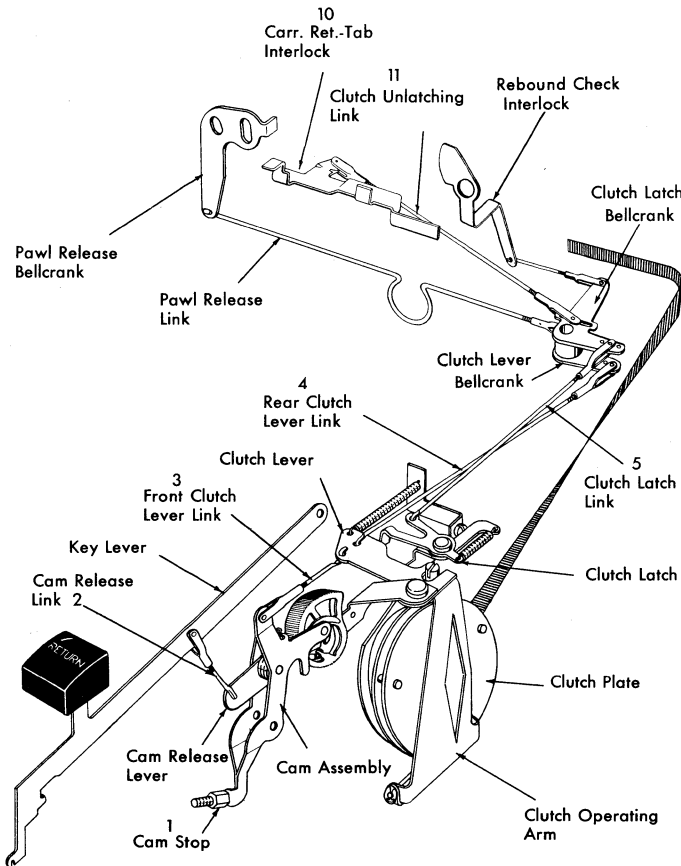

Figure 24. Carriage Return Adjustments
1. Adjust the cam stop until the cam clears the power roll enough so that, when tripped with the power off, the cam release lever will fall on the rear half of the cam lug (Figure 24).
2. Adjust the cam release link so that the cam is released when the key-lever is depressed approximately two-thirds of its downward travel (Figure 24).
3. Adjust the front clutch lever link so that, with the cam on its high point, the clutch lever will clear the clutch latch by .010" to .030" (Figure 24).
With the clutch at rest, adjust the link so that the slot in the clutch lever bellcrank is parallel to the rear rail (Figure 24).
lever, adjust the link so that the slot in its bellcrank is parallel to the rear rail (Figure 24).